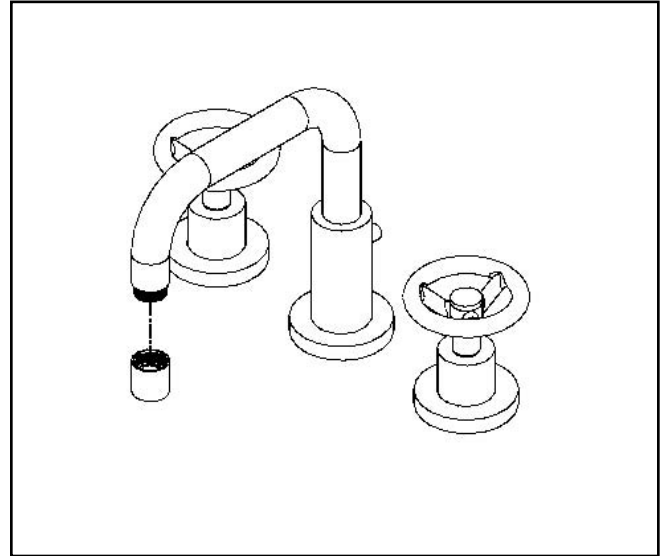

Figure 4
6. Remove aerator from spout, turn on water supply, and flush both valves until water is clear. Check for leaks and make any final adjustments required. Re-attach aerator to the spout. See Fig. 4.